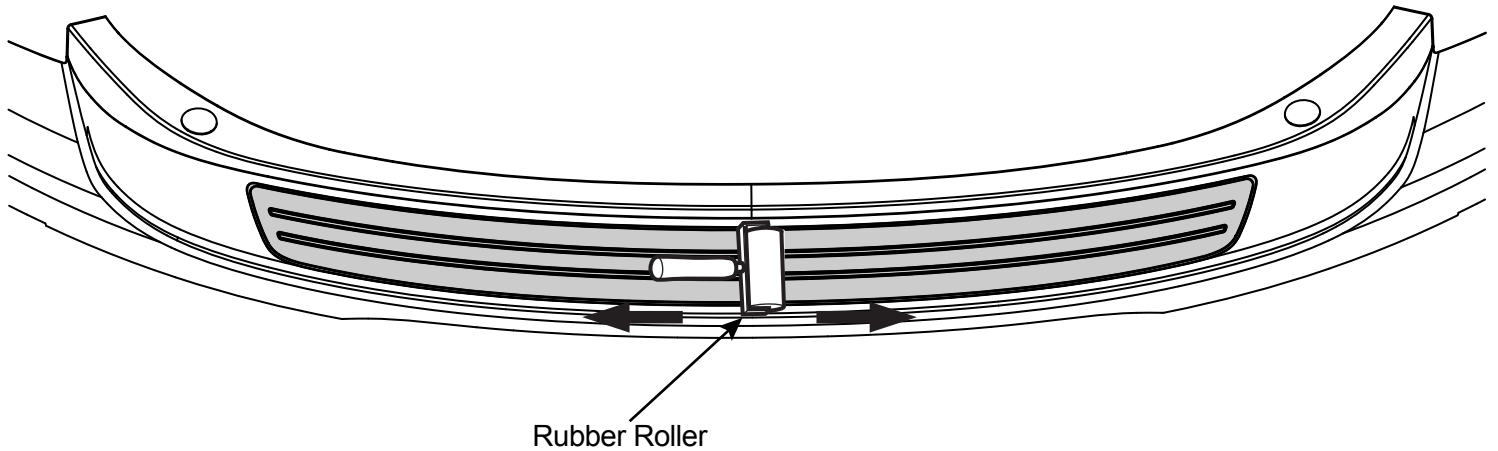

Figure 9
- B. Using a rubber roller, starting from the center out, press down the perimeter of part to ensure proper bond of adhesive (Figure 9). **(Use caution to ensure roller does not scratch vehicle).**